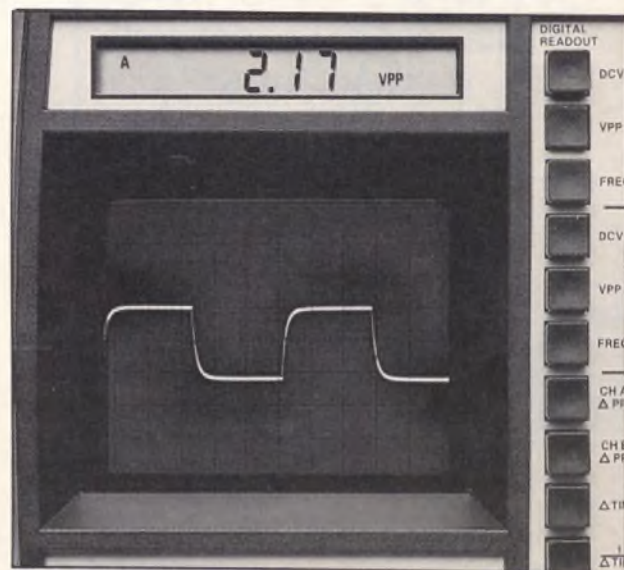

Fig. 6: The SC61 quickly verified that the pulses from the takeup reel sensor were too small to be identified by the microprocessor.
Figure 6 shows the basic construction of a VCR video head. A core of "soft" ferrite material has a coil of insulated wire wound around it.
**Fig. 6: A VCR video head is a coil of wire wound over a ferrite core, like regular coils, except the inductance value is so low it won't ring on your LC77. The best test for video heads is to prove the supporting circuits work using your VC63 VCR Test Accessory.**